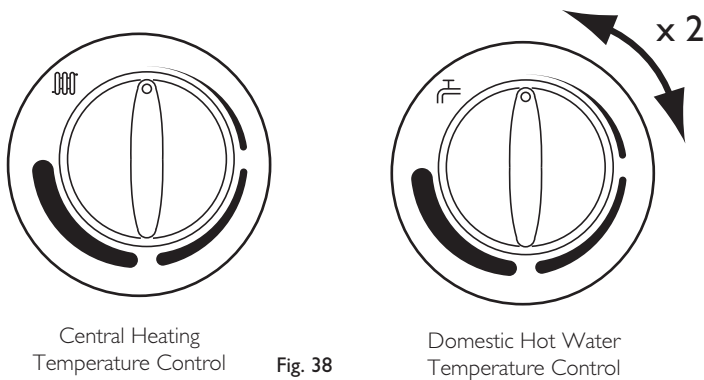

Fig. 38
3. Turn both temperature control knobs fully anticlockwise, then quickly turn the DHW temperature knob $\frac{1}{4}$ clockwise twice and back fully anticlockwise (Fig. 38).